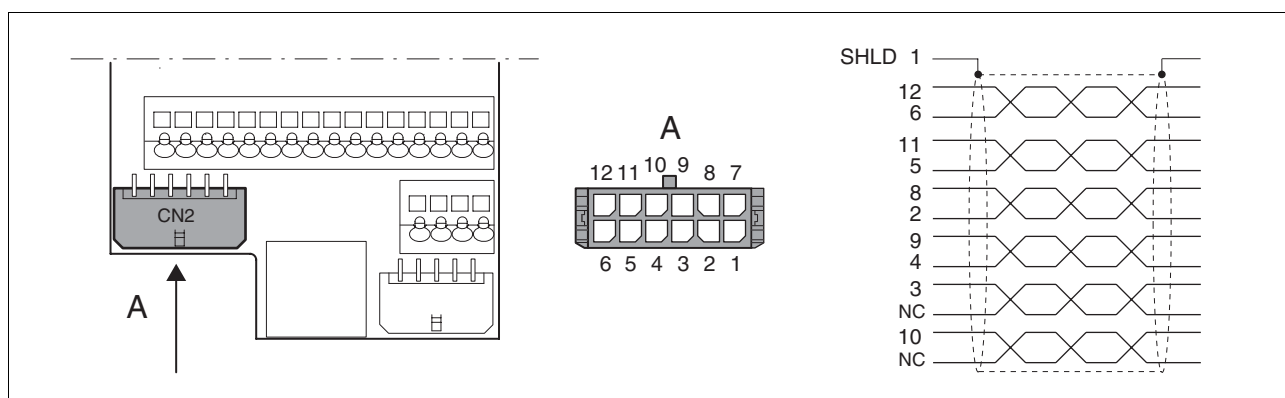

Figure 6.14 Wiring diagram of motor encoder
- (1) Remove the cable sheath, length A depends on the device, see table.
- (2) Shorten the shield braiding. The shield braided filler wire is required as the connection.
- (3) The red and the violet braided wire is not required and can be cut off. Isolate the shield lead with shrink wrap.
- (4) Crimp the plug contacts on the remaining braided wires and on the isolated shield wire. Isolate the shield braiding with shrink wrap. Plug the crimp contacts into the connector shell; for the pin assignment see Figure 6.14.